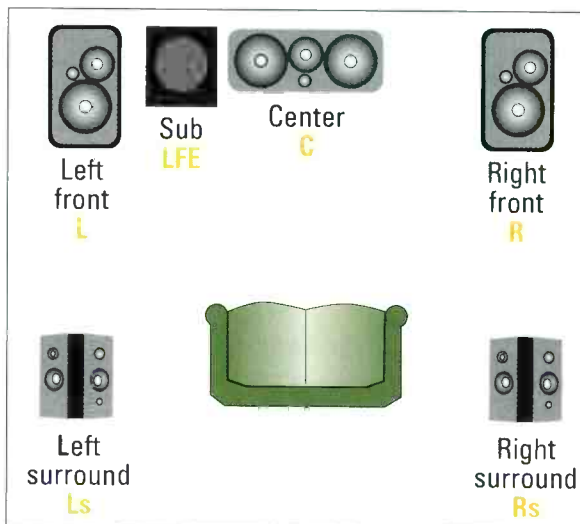

Figure 1. Typical multichannel 5.1 surround-sound speaker placement
Using the DTS-330 test platform or DTS-200 for in the field testing, the operator can perform a real-time investigation of a wide selection of important MPEG parameters. (See Figure 1.) This includes presence of all audio and video content, PCR accuracy and jitter, continuity counter measurements and packet loss. The test system can also view the accompanying MPEG metadata that is needed by the set-top box.
Figure 1. Using the JDSU DTS, an operator can monitor and measure video timing, stream composition and content bandwidth utilization, among a variety of other parameters.
A 5.1 multichannel audio system locates the speakers as shown in Figure 1. The left (L) and right (R) channels drive the speaker pair in front of the listener and carry most of the music in the program. The center (C) channel primarily carries dialog, as producers usually want listeners to perceive this in the center of the video field.